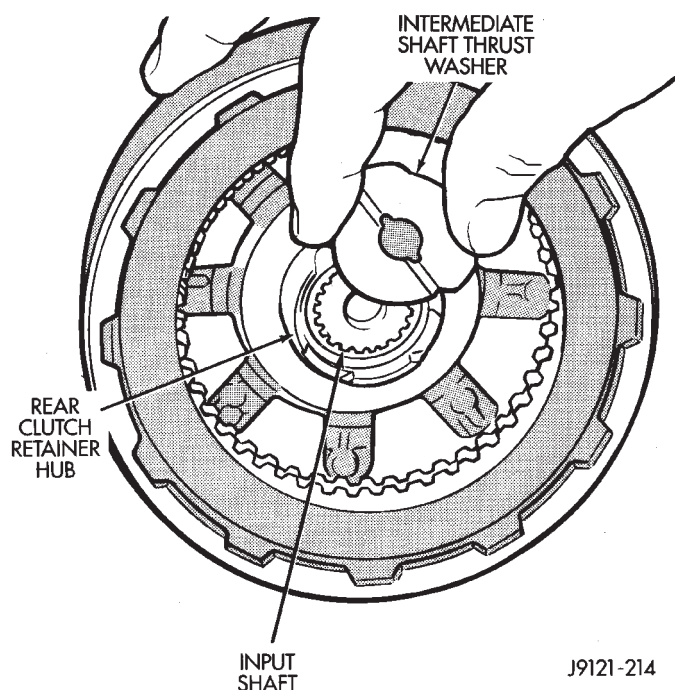

Fig. 141 Removing Intermediate Shaft Thrust Washer
(31) Remove intermediate shaft thrust washer from front end of shaft or from rear clutch hub (Fig. 141).